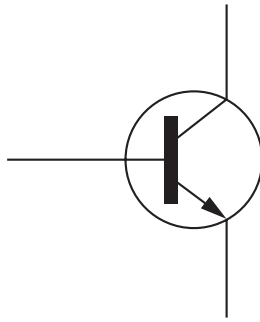

Fig. 10
(d) Fig. 10 shows a circuit symbol for a transistor.
- (i) Label, **on Fig. 10**, each connection on the transistor. [3]